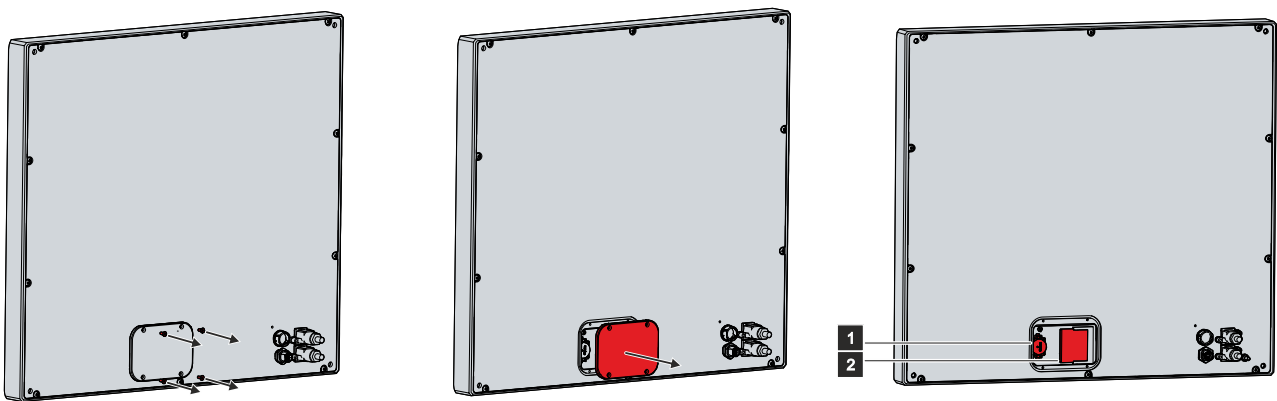

Fig. 12: Access device components
Access is gained to the battery (1) and storage medium (2) from the back of the panel PC. The components are located behind a cover. To gain access to the device components, loosen the four M3x8 screws and remove the cover (see Fig. 12).